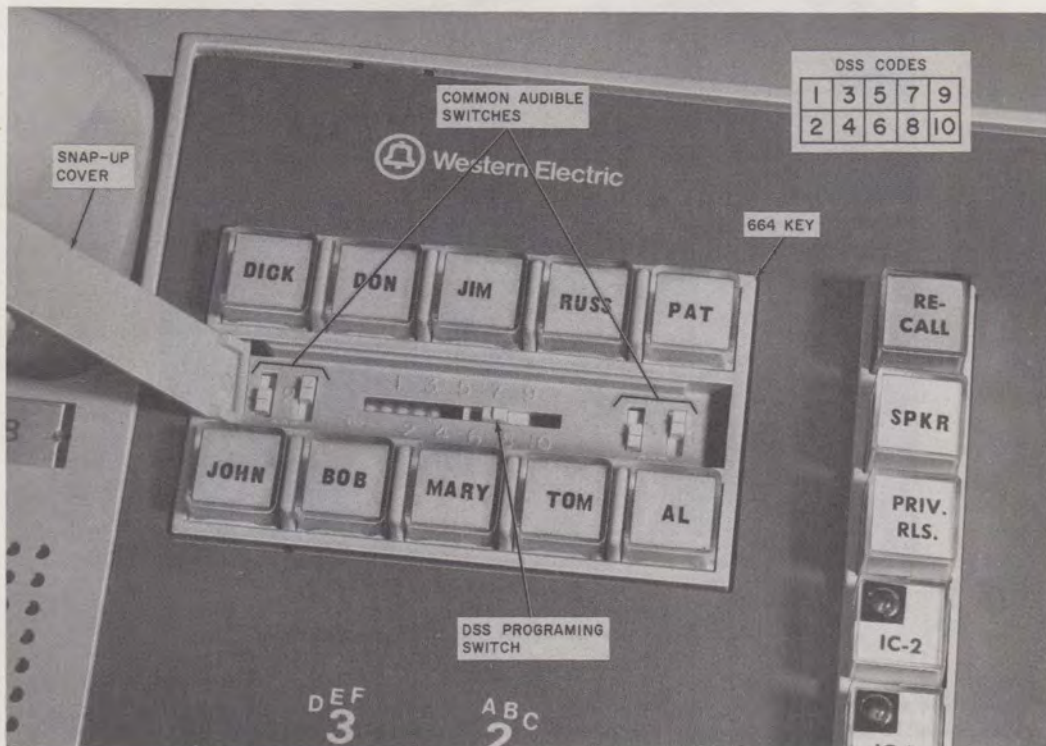

Fig. 7—DSS Key
**3.07** The DSS programming switch and common audible switches (Fig. 7) must be set as required at each station as follows:
For example, Fig. 7 shows the station designated as DSS code 7.